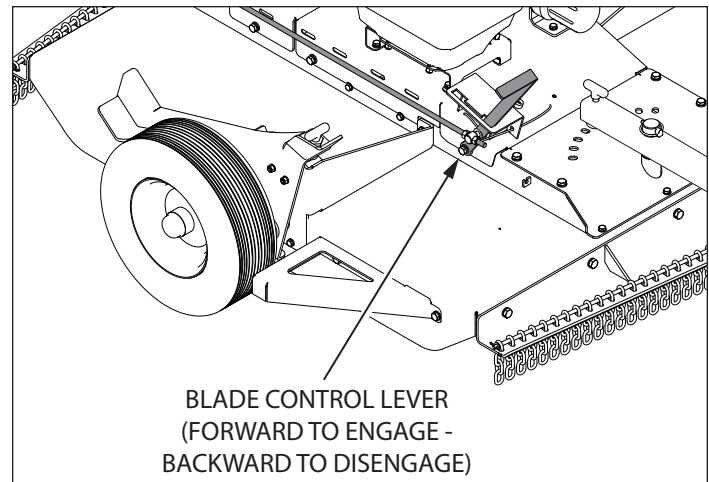

FIGURE 5: Cutter Blade Control Lever.
1. Engage the cutter blades by pulling the blade control lever towards the front of the mower. **SEE FIGURE 5**